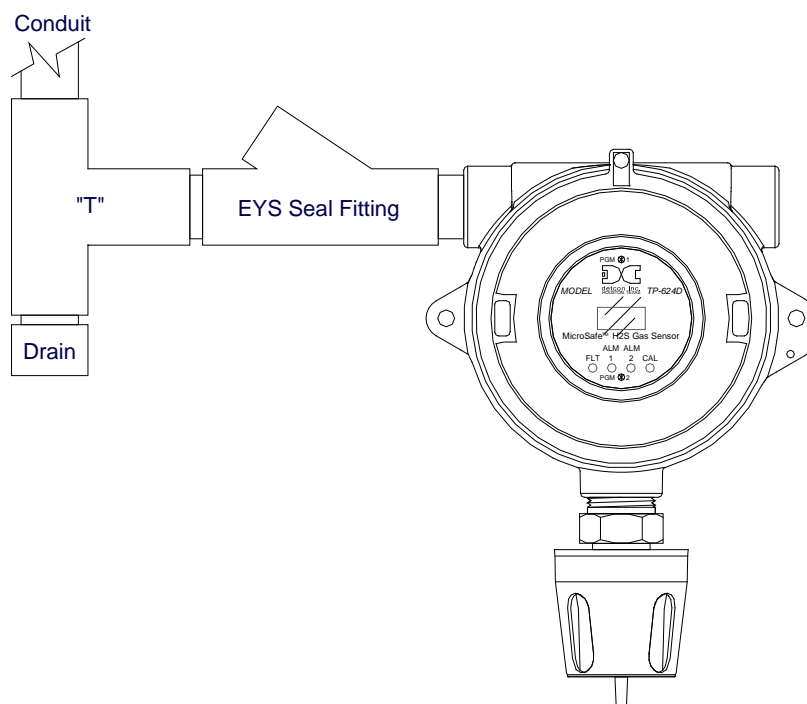
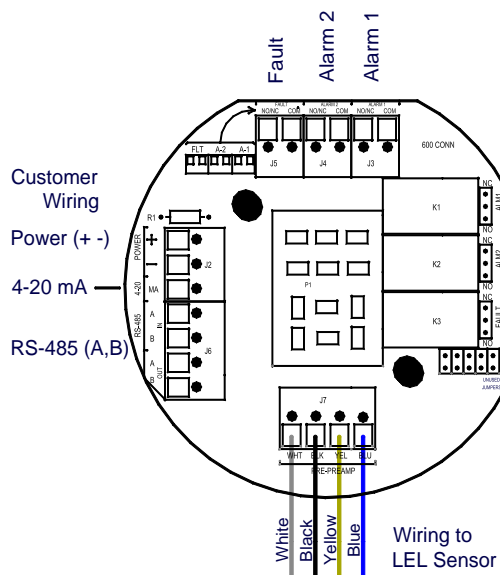

Figure 10 Typical Installation
Figure 11 Sensor Connector PCB
NOTE: In all installations the gas sensor should point straight down (refer to Figure 10). Improper sensor orientation may result in false readings and permanent sensor damage.
Proper electrical installation of the gas sensor is critical for conformance to Electrical Codes and to avoid damage due to water leakage. Refer to Figure 10 and Figure 11 for proper electrical installation.
NOTE: If a conduit run exits the secondary port, repeat the installation technique shown in Figure 10.
In Figure 10, the drain allows H₂O condensation inside the conduit run to safely drain away from the sensor assembly. The electrical seal fitting is required to meet the National Electrical Code per NEC Article 500-3d (or Canadian Electrical Code Handbook Part 1 Section 18-154). Requirements for locations of electrical seals are covered under NEC Article 501-5. Electrical seals also act as a secondary seal to prevent water from entering the wiring terminal enclosure. However, they are not designed to provide an absolute watertight seal, especially when used in the vertical orientation.
NOTE: For products utilizing the aluminum junction box option, the conduit seal shall be placed at the entry to the junction box (see Figure 10 as an example). For products utilizing the stainless steel junction box option, the conduit seal shall be placed within 18" of the enclosure. Crouse Hinds type EYS2, EYD2 or equivalent are suitable for this purpose.
- Observing correct polarity, terminate the field wiring (DC+, DC-, MA, A, and B) to the sensor assembly wiring in accordance with the detail shown in Figure 11.